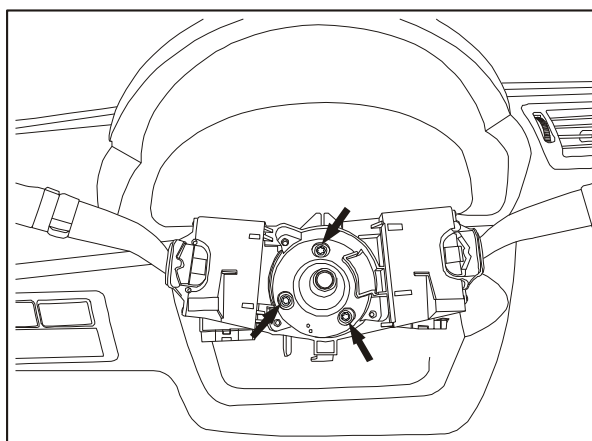

Figure 6-15 Disassembly of multi-function switch
3. Cut off cable joints of the left and right multi-function switch, screw off the three fastening bolts and remove the multi-function switch as shown in Figure 6-15.